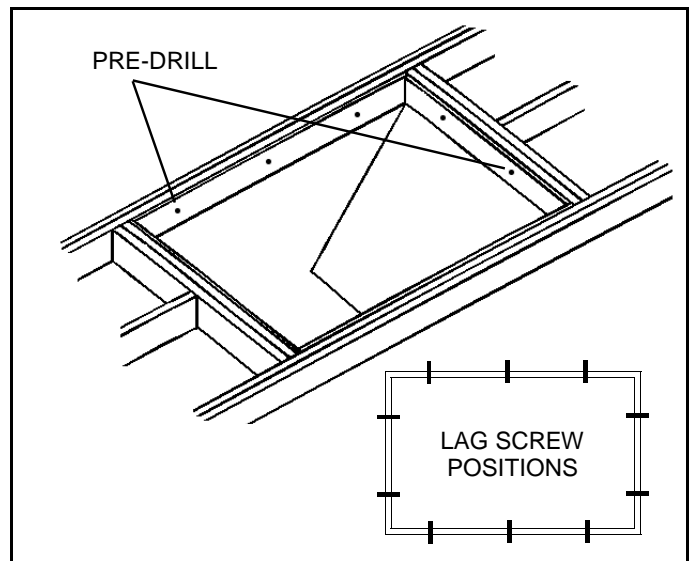

Figure 15
1. Mark location of lag screws. Pre-drill pilot holes, shim and screw stair frame to headers using three lag screws on each long side and two on each end. Figure 15.